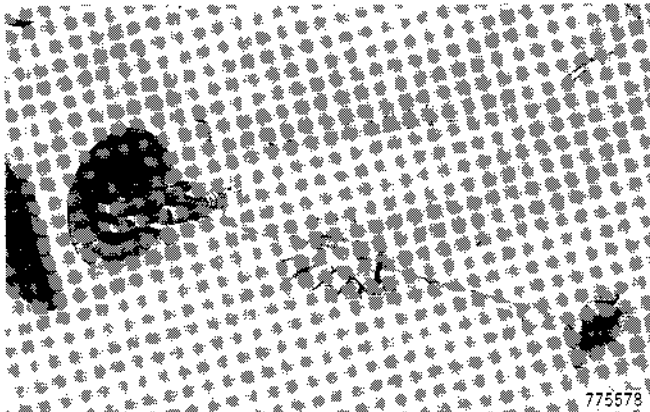

Figure 23
16. Using a suitable puller, remove inner bearing cup, Figure 23.